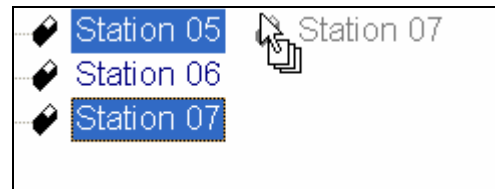

Figure 16.4.44D
- While holding down the left button of the mouse, drag this station to the one you want to slave it to (Figure 16.4.44D).